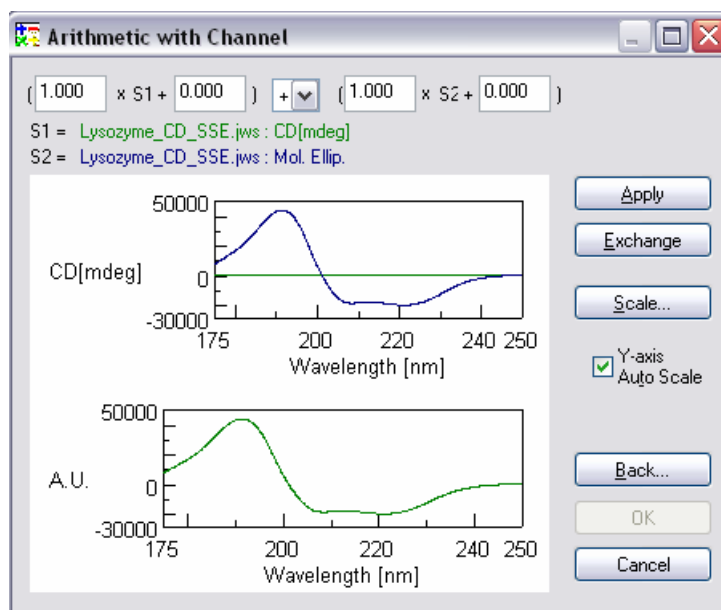

Figure 7.24 [Arithmetic with Channel] dialog box
- (5) Enter appropriate values into the boxes on the top of the dialog box. Select the operation by clicking the arrow at the top of the dialog box.
- (6) Click on the <Apply> button. The A.U. spectrum of Fig. 7.24 appears as follows (the operation “/” was selected in this example).
- [Back]: Returns to the dialog box shown in Fig. 7.24 or 7.25.
- [Cancel]: Stops the operation and returns to the view of loaded file (see Fig. 7.24 or 7.25).